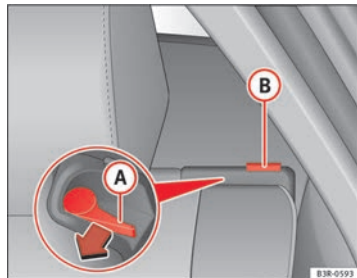

Fig. 116 Backrest release lever
- Press the release lever (A) ⇒ fig. 116 in the direction indicated by the arrow.